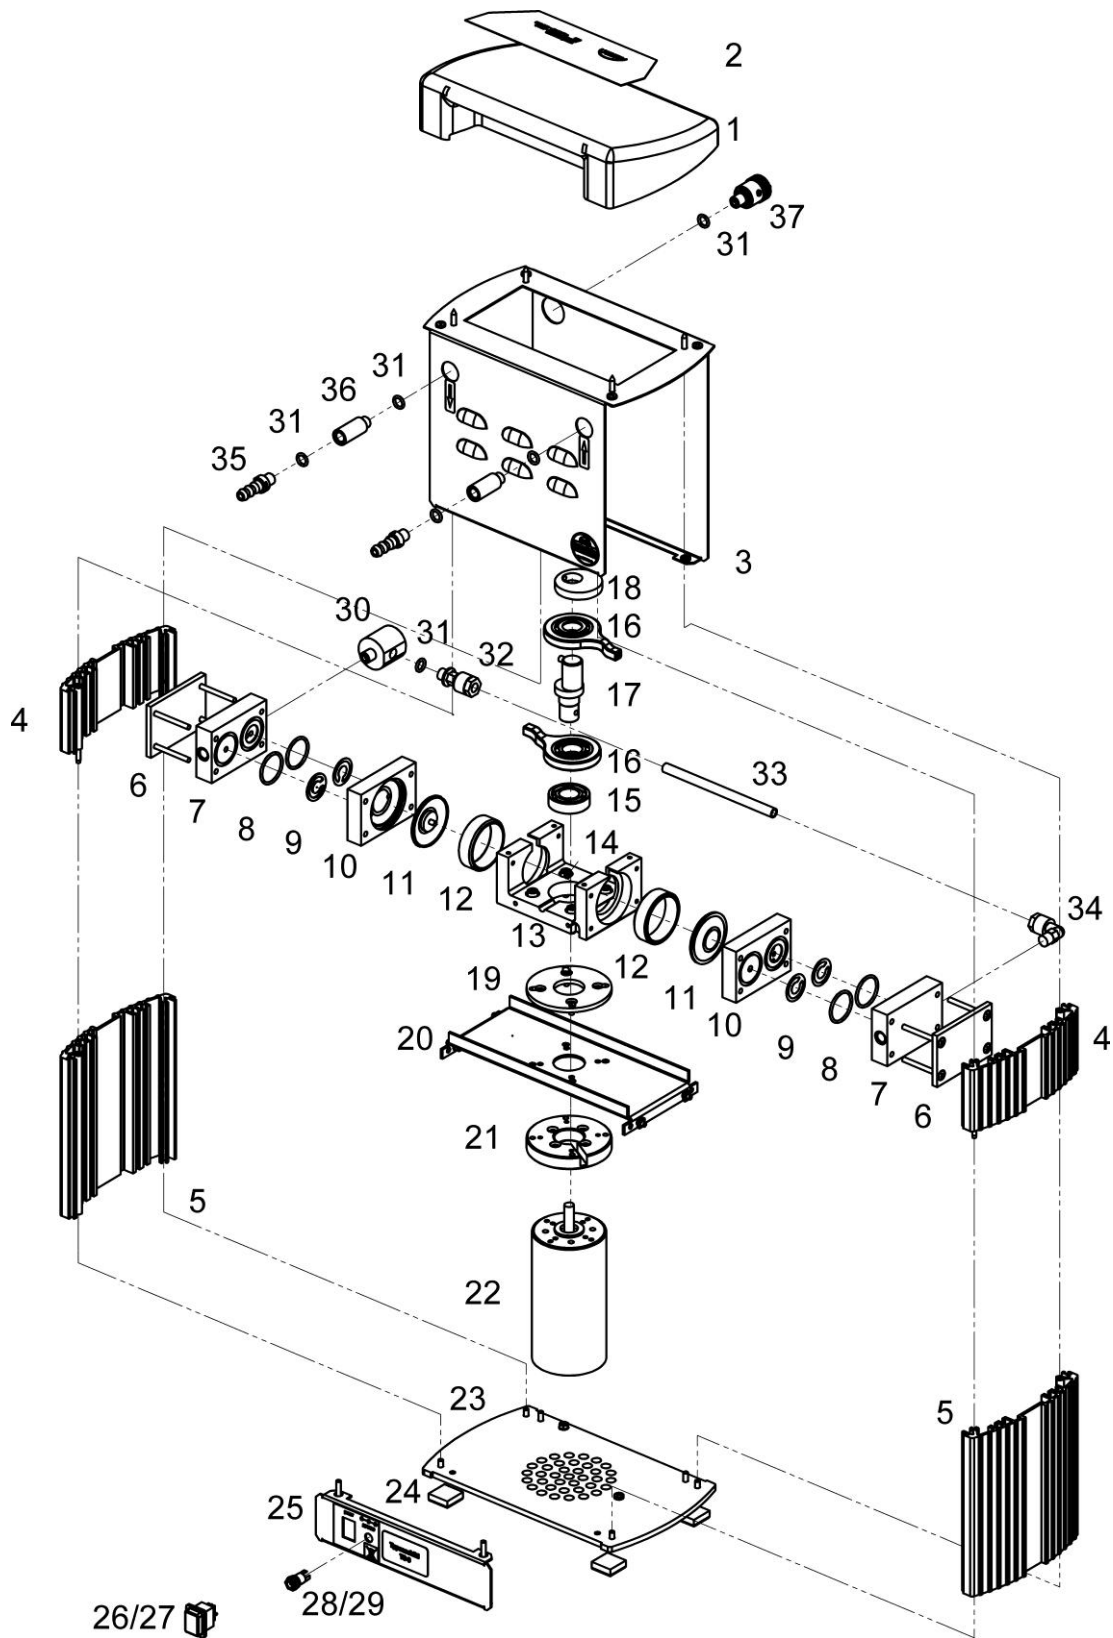

Fig. 4 Exploded view (MPC 095 Z)
3. Bring the connecting rod (see Fig. 4) and the diaphragm **(6)** into the central position.